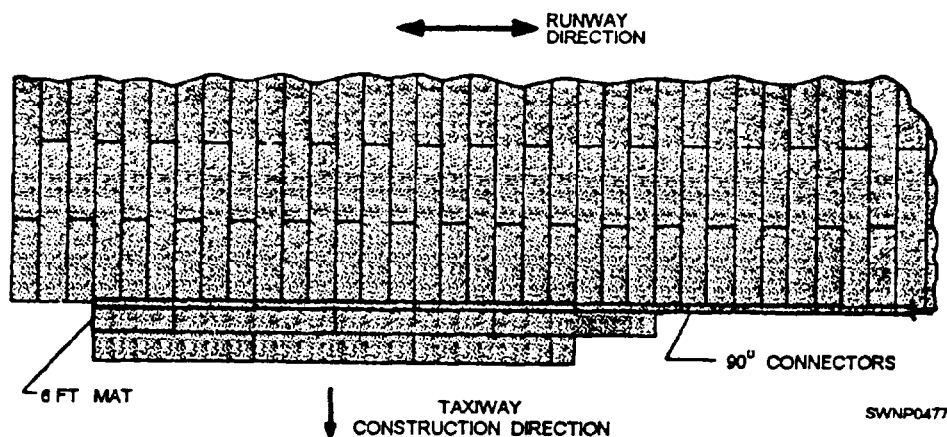

Figure 11-25.—Procedure No.1, 90-degree connectors.
**PROCEDURE NUMBER 1.** Where the adjoining pattern has not been laid, install a sufficient number of 90-degree connectors along the 2-foot edge of matting, such as the edge of the runway, equal to the width of the taxiway or other section to be joined. Lay a half-length mat into the first 90-degree connector, so the end of the mat matches the end of the connector. Engage the prongs of a full-length mat into the prongs of the half-length mat previously laid and push into engagement with the 90-degree connector. Continue to lay mats in the above manner until the first row is completed to the length of the 90-degree connectors. Additional mats may then be laid in the usual manner. (See fig. 11-25.)